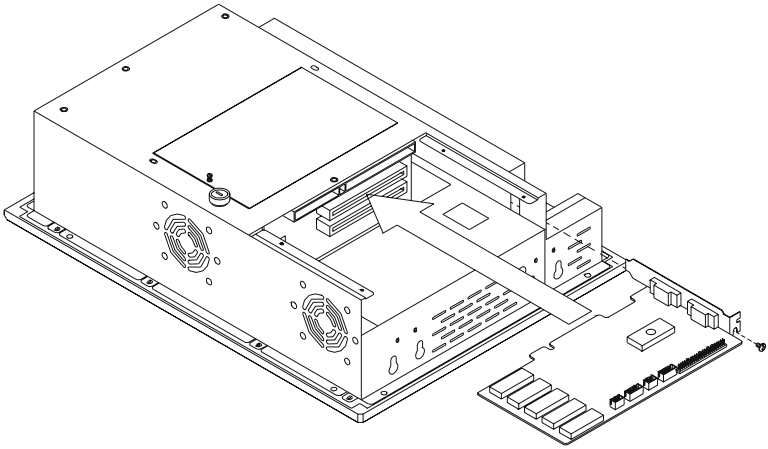

Figure 2.10: Installing an Add-on Card
2. Take away the adapter bracket by detaching the screw which is mounted in the little box (see Fig. 2-10).